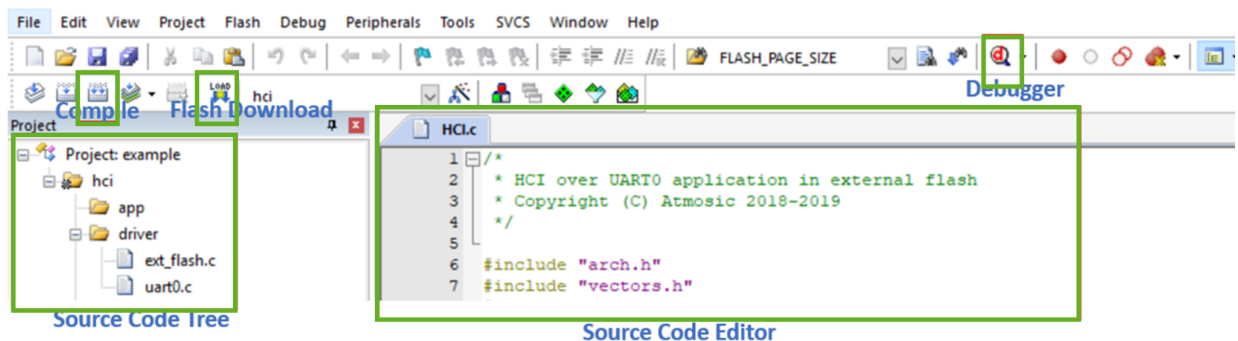
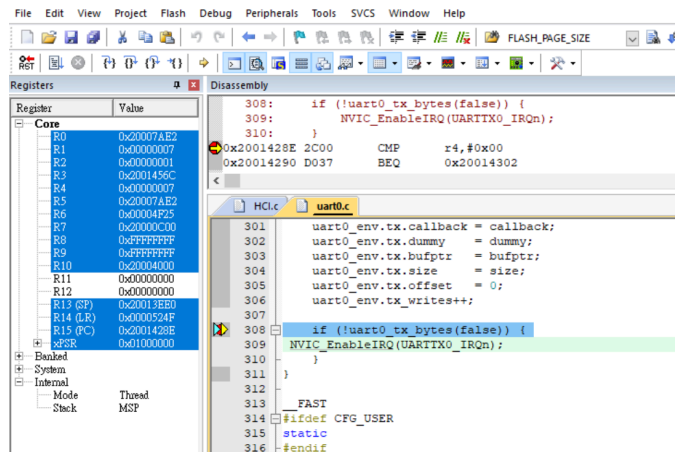

Figure 1 - Keil MDK IDE GUI
Figure 2 - Debug Session
- 2) Edit/Compile/Program/Debug Code at Keil IDE, see Figure 1 and Figure 2.